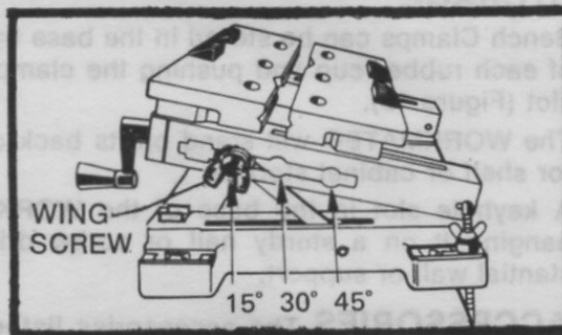

FIG. 17
7. When using the WORKMATE® with the top tilted, be sure that Wing Screws are tightened securely in one of the three available detented positions. (See Figure 17).
3. Tilt the top so that the inside ends of the Wing Screws will fully seat in one of the three optional angular, detent positions (Figure 17).